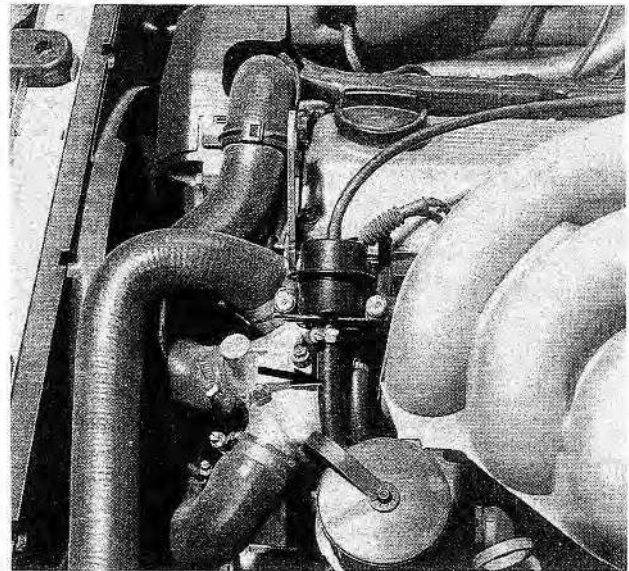

Fig. 4-60. Fuel return hose at fuel pressure regulator (arrow).
20. Disconnect the fuel return line from the fuel pressure regulator. See Fig. 4-60. Disconnect the fuel supply line at the union beneath the intake manifold.